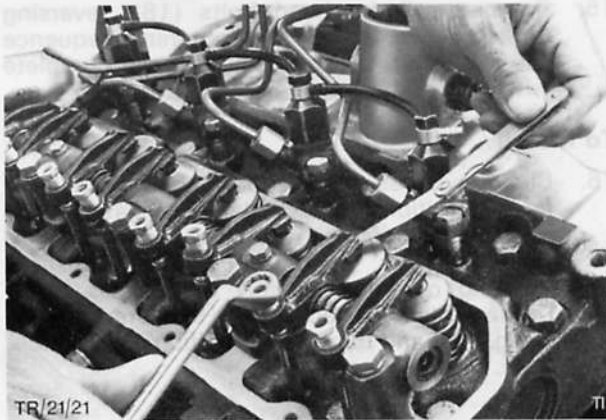

Fig. 107. Adjust valve clearances
21. Adjust valve clearances, Fig. 107, (see Operation 21 213), cranking engine **only** in direction of normal rotation.